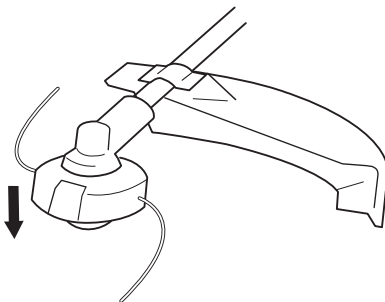

Fig. 16
- Insert Allen wrench (19) into the hole of the gear case in order to lock the cutter holder.
- Set the engine speed as low as possible and tap the head on the ground. The nylon line will be drawn out about 1-3/16" (3 cm) with each tap. (Fig. 16)